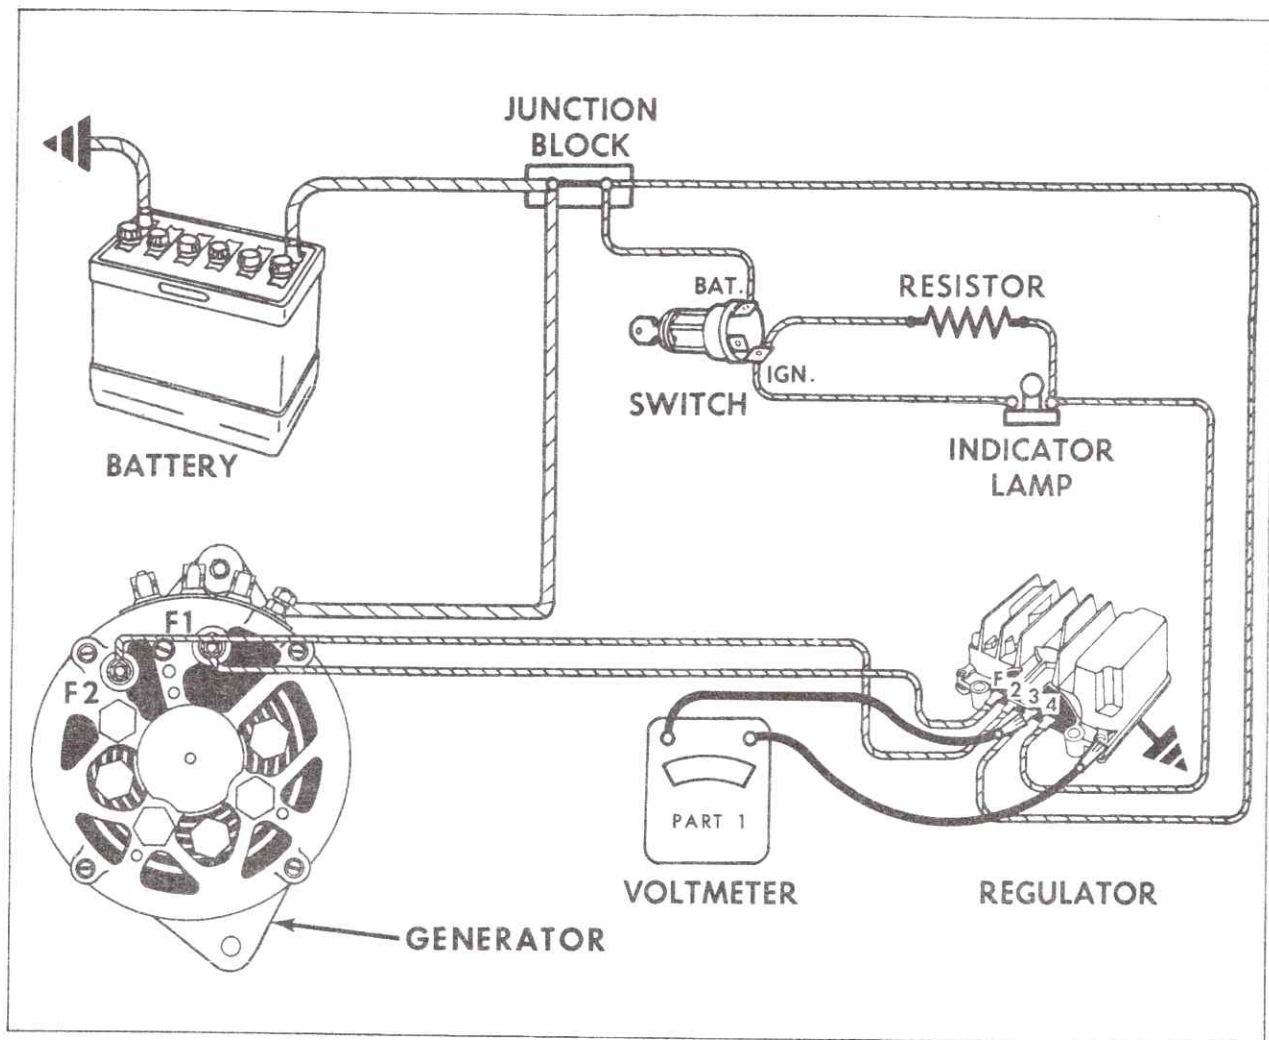

Fig. 6-57 Testing Voltage Regulator Adjustment
12. Operate the engine at approximately 1500 rpm for 15 minutes with Lower beam headlights "on." Tool J-8529 should be placed on the regulator cover. With engine running, record voltage reading with voltmeter connected from the regulator No. 3 or No. 4 terminal to ground. (Either terminal is satisfactory for this check provided a lead is connected to it.) See Fig. 6-57.